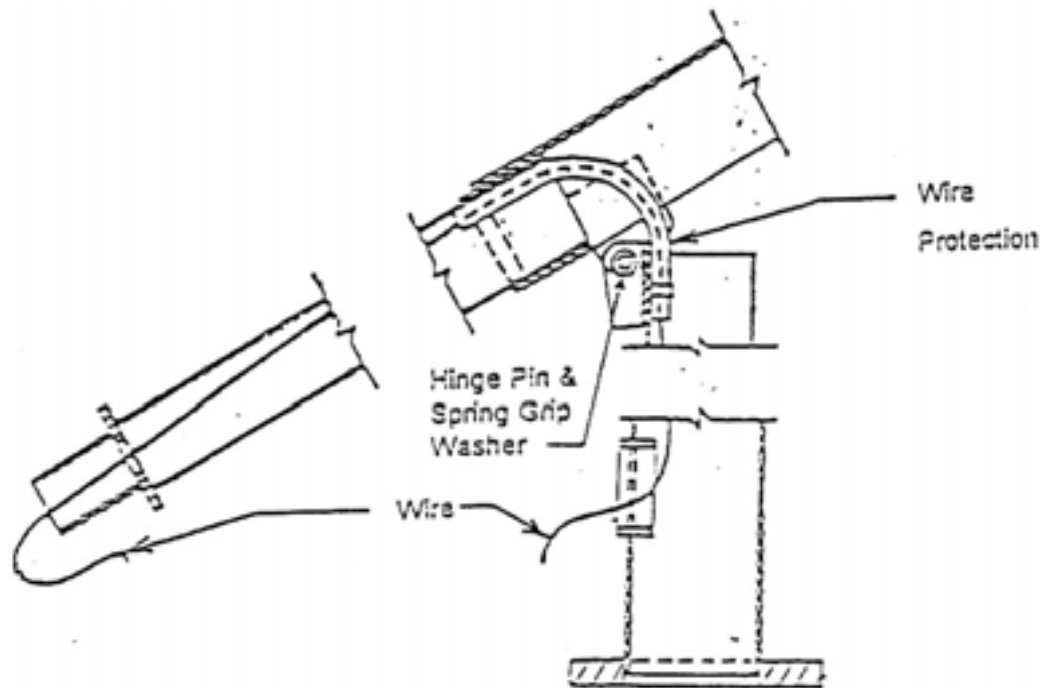

FIGURE 2
CAUTION: Check spring grip washers (2) to make sure they are in place on hinge pin (1) before operating the hinge. (See Figure 2 of Page 2).
2. Rotate pole top at hinge. (FIG2).
3. String wire through pole as shown (FIG2). **CAUTION:** Wiring must pass through the wiring protection guide to assure that the insulation won't be damaged during raising and lowering.